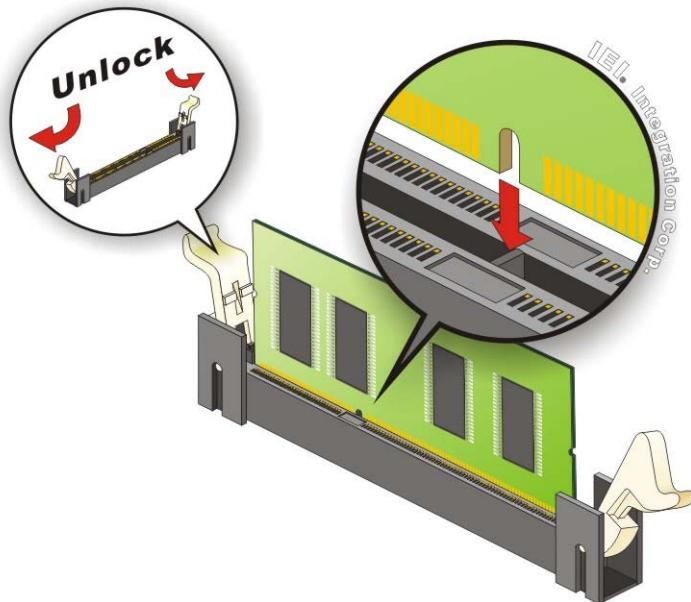

Figure 4-6: SO-DIMM Installation
To install an SO-DIMM, please follow the steps below and refer to **Figure 4-6**.
Step 1: Open the SO-DIMM socket handles. Open the two handles outwards as far as they can. See **Figure 4-6**.
Step 2: Align the SO-DIMM with the socket. Align the SO-DIMM so the notch on the memory lines up with the notch on the memory socket. See **Figure 4-6**.
Step 3: Insert the SO-DIMM. Once aligned, press down until the SO-DIMM is properly seated. Clip the two handles into place. See **Figure 4-6**.